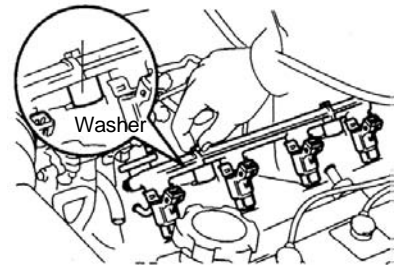

Figure 99
- (a) Install two washers in intake manifold. See (Figure 99).